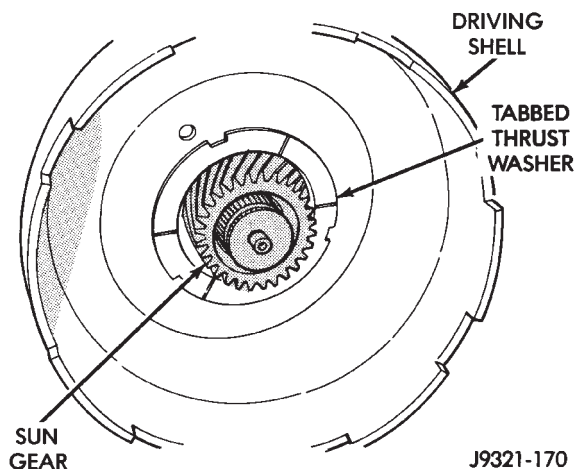

Fig. 174 Driving Shell Thrust Washer Removal
(4) Remove tabbed thrust washer from driving shell (Fig. 174). Note washer position for assembly reference.